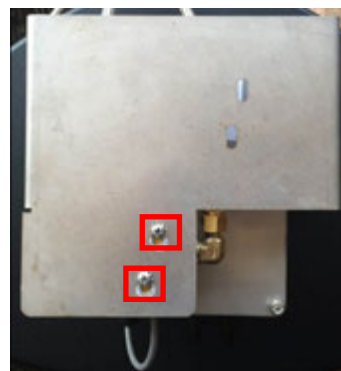

Figure 3 - Red boxes indicate the two screws that secure the mounting bracket to the Cyl-Tel gauge.
4. Mount the Cyl-Tel Gen 5 onto the MicroBulk tank mounting bracket as shown in Figure 3.